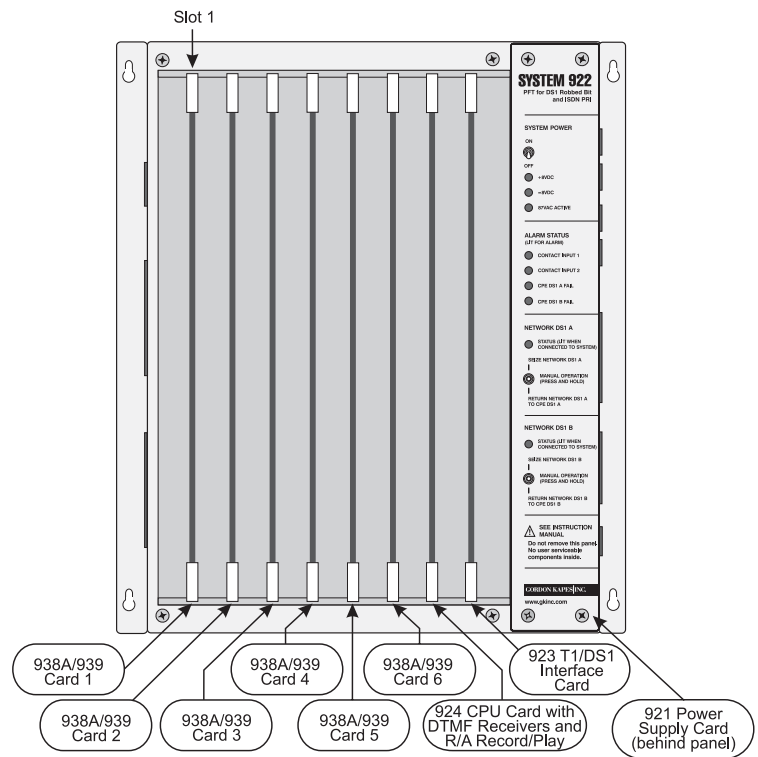

Figure 2-6. System 922 with All Cards Installed
- ❑ Observing Figure 2-6, install the cards associated with the specific installation into the System 922's enclosure. Firmly press the plastic handles at the top and bottom of each card to ensure the cards are fully inserted. To ensure cards cannot be inappropriately interchanged, the height of the mating connectors for each type of card is staggered. This enables you to interchange the analog cards, but not any of the other cards. Note that the two RJ11 “courtesy jacks” are functional only if an analog card is present in slot 1.